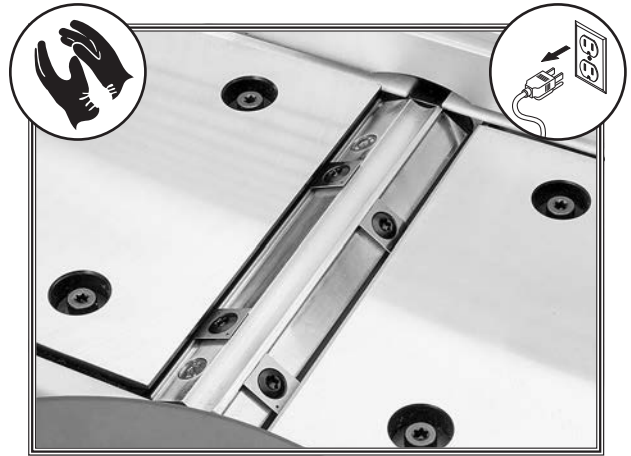

Figure 29. Cutterhead area cleaned.
5. Carefully clean away all sawdust or debris from top of insert, Torx screw, and surrounding area (see **Figure 29**).